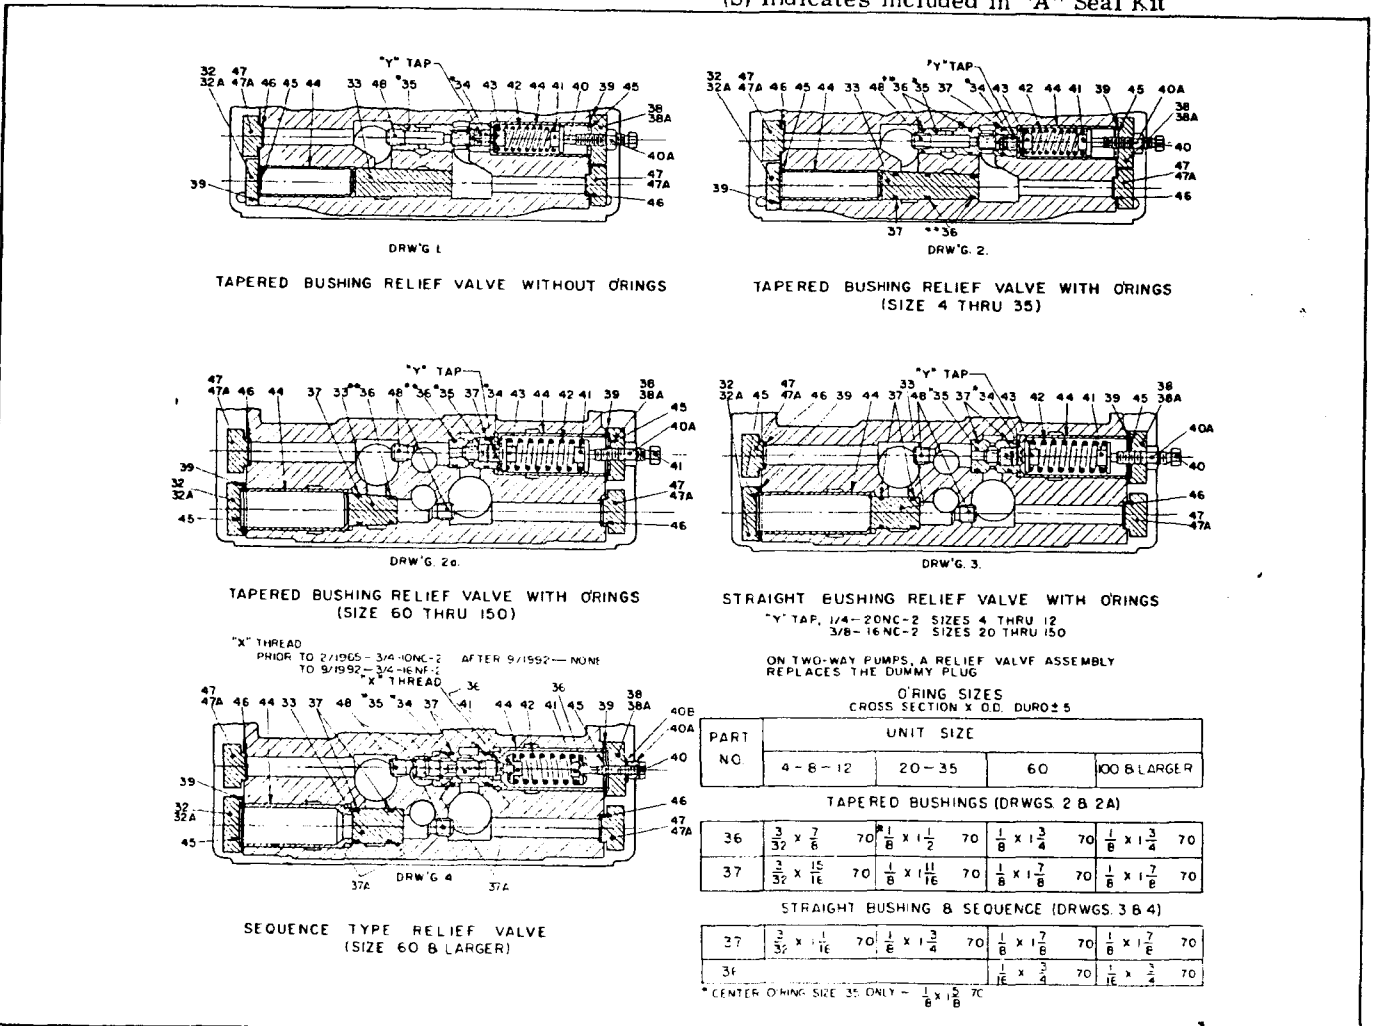

Figure 9. Parts Drawing. Typical High Pressure Relief Valves for Type "D" Units. DS-947911E (504034E). Bulletin 947006F Page 12
Refer to figure 9.
Two-way pumps are normally equipped with two HPRV. One-way pumps are normally equipped with one HPRV and a "dummy" plug. Figure 9 shows arrangement for one HPRV and "dummy".
A. HPRV (all sizes) refer to figure 9.